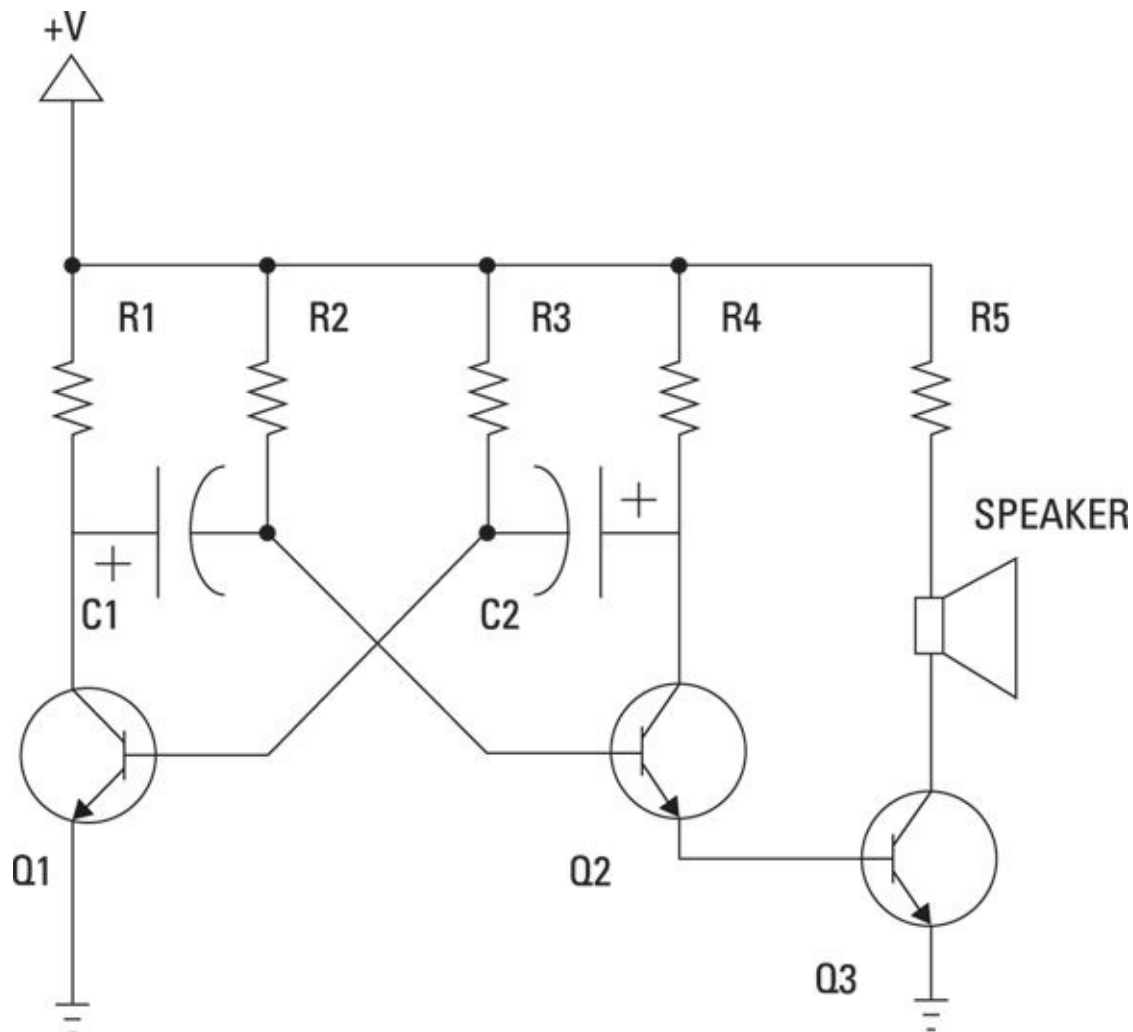

FIGURE 6-9: Using a transistor to couple an output load to an astable multivibrator.
- Alternatively, you can use a third transistor to couple the multivibrator with an output load, as shown in Figure 6-9. Just connect the emitter of one of the multivibrator transistors to the base of the third transistor and connect the load to the collector, as shown in the figure.